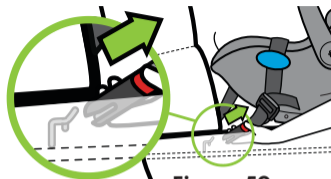

Figure 59
- Press and hold red release button while pulling UAS Connector as shown in **Figure 59**.